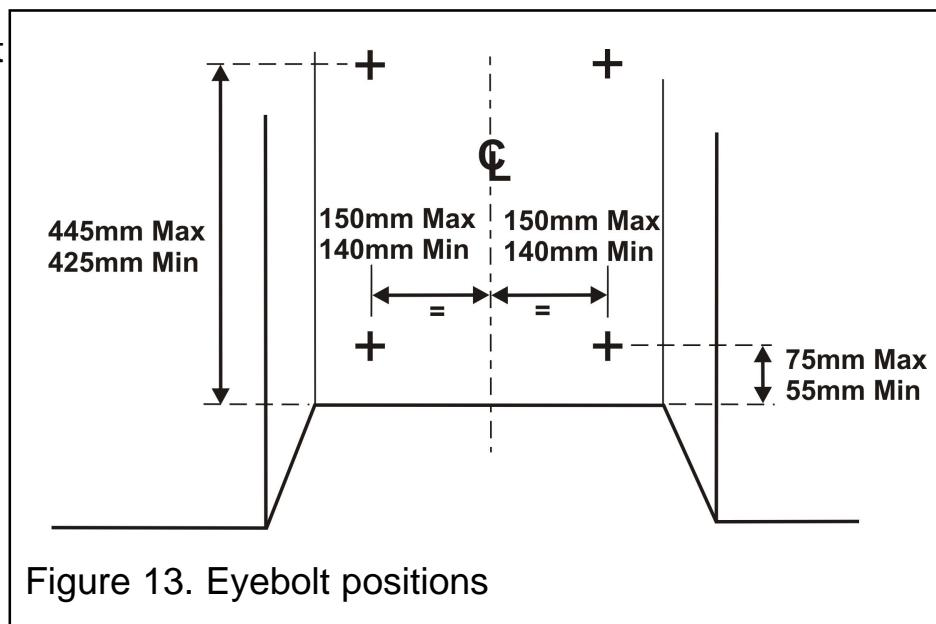

Figure 13. Eyebolt positions
2. Drill four holes in the rear wall of the fireplace for the fibre plugs. The holes should be drilled within the range of positions shown in figure 13 using a suitably sized